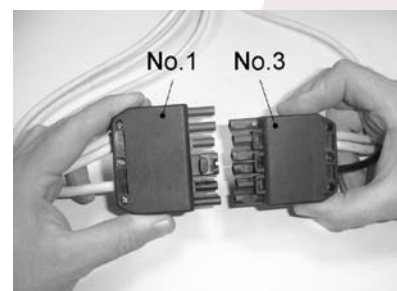

Figure 10-11: Connection of the two plugs
- Insert the 6-way plug into the 7-way plug. Refer to Figure 10-11. **It is not possible to connect these two plugs incorrectly as they will only fit together one way.** The feed pellet feed auger will now run continuously until the plug and socket is disconnected.